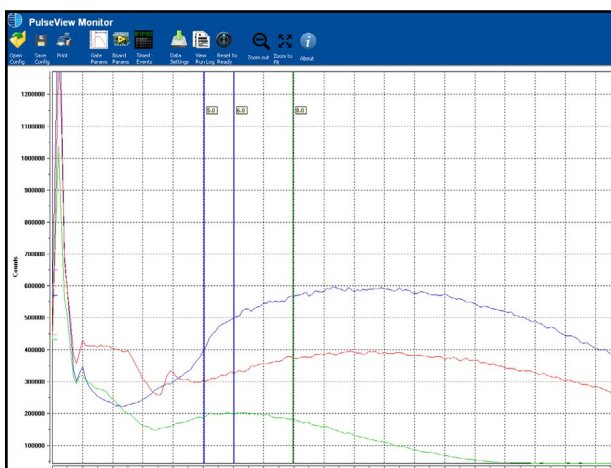

Figure 6.3. Effect of H₂:Air Ratio on Chemiluminescent Intensity and Sulfur Emission Lifetime
9. The H₂:Air 1 flow ratio should have been achieved by the initial H₂ and Air 1 flow settings made prior to starting the PFPD. If this ratio is correct and a sulfur permeation source is connected, a chemiluminescent signal similar to that shown in Figure 6.3 should be observed. In particular, note the start and end of the OH*, C2*, and CH* emission and the start and end of the sulfur emission. (If using a phosphorus permeation source, the start and end of the chemiluminescent emission occurs considerably sooner than shown in Figure 6.3.)
Increasing the H₂ flow gradually cools the gas mixture in the combustor until the flame no longer fully propagates into the combustor. This manifests as an increase in the time spread and a decrease in the amplitude of the flame background OH*, C2*, and CH* emission until the second emission is no longer visible. Simultaneously, the sulfur emission rapidly decreases in lifetime and emission intensity (Figure 6.3). Slowly decreasing the H₂ flow results in the sulfur emission building back up to a maximum of emission amplitude and lifetime. Observe a similar dynamic with a phosphorus emission, but the optimal H₂:Air 1 ratio mixture for phosphorus is lower (0.9-1.0) than that for sulfur (1.1-1.2).